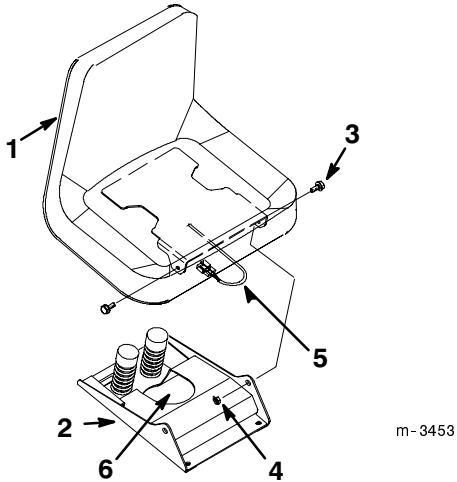

Figure 1
1. Mount the seat to the seat base using two 5/16" shoulder bolts and lock nuts (Fig. 1).
2. Insert the seat switch wire through the center opening in the seat base (Fig 1).